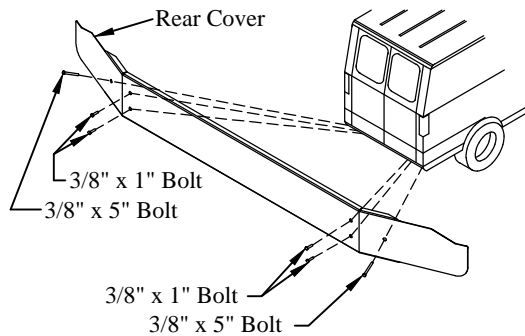

Figure 10: Rear cover hardware location.
- 9. Install** the rear cover on the rear of the van (Figure 10).
- 10. Install** the supplied two (2) 3/8" x 5" bolts and flanged lock nuts in the rear cover (Figure 10).